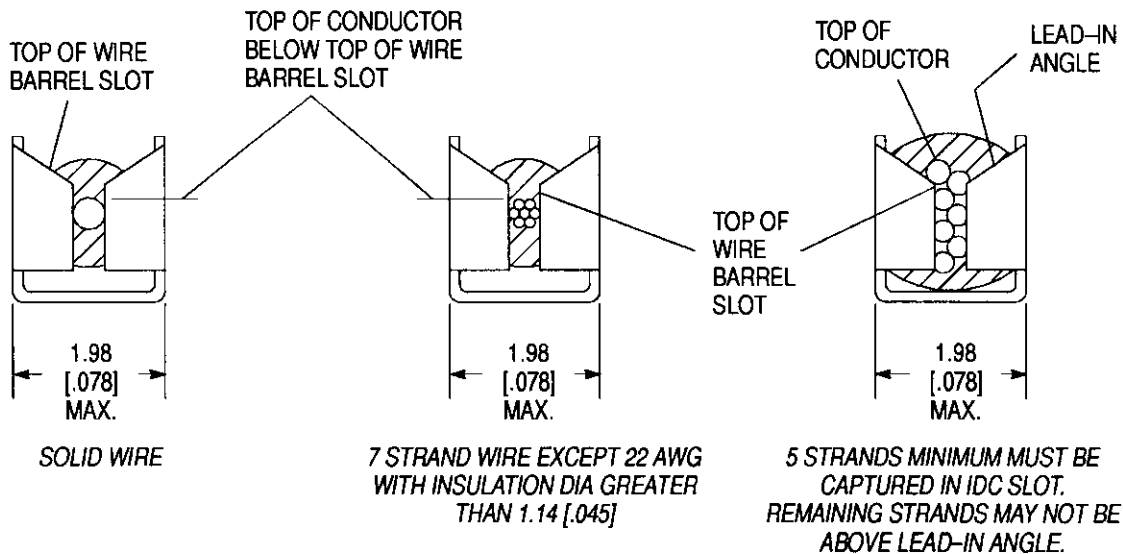

Figure 5
Figures 5 and 6 show the properly and improperly terminated contacts. Each view gives a brief description concerning the termination.
2. Make sure the wire extends beyond the front contact slot. See minimum dimension in Figure 5.
- Added additional art to Figure 5